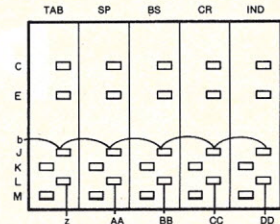

Fig. 5. Wire-wrap pins on operational contact assembly.
13. Make a "daisy chain" of wire-wrap clips with about 1 inch of hookup wire between them. Slip the clips over pin J of each set of contacts. Refer to Fig. 5.